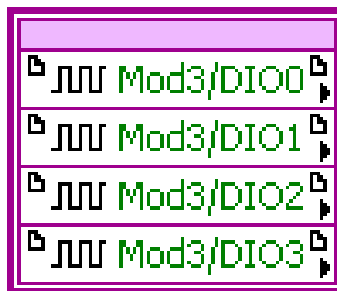

Figure A9 – Expanded Mod3 node
b. Expand the moved node down to show Mod3/DIO0, Mod3/DIO1, Mod3/DIO2, and Mod3/DIO3 (See Figure A9)